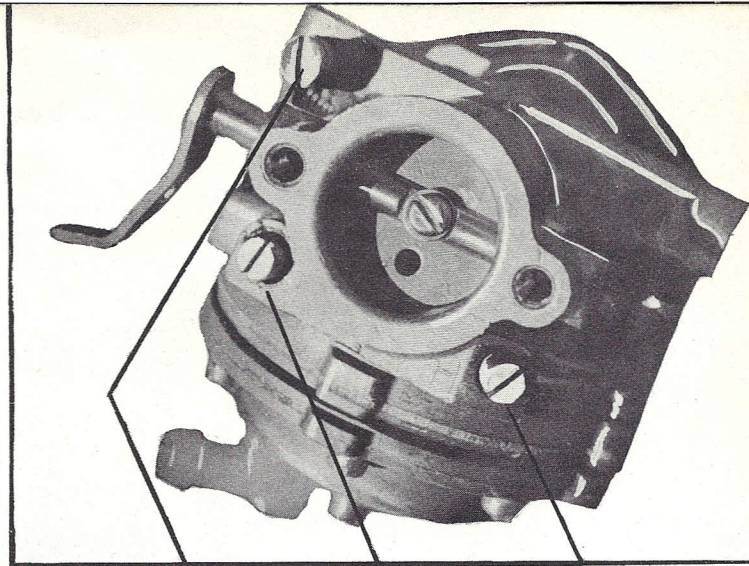

Fig. 4 Idle Speed Low Speed High Speed
1. Idle speed regulating screw which controls the idling speed only. (Fig. 4.)
2. Main Adjusting Screw which controls the fuel mixture when the throttle is open. Right rear of carburetor body. (Fig. 4.)
1. La vis qui règle la vitesse du ralenti (fig. 4).